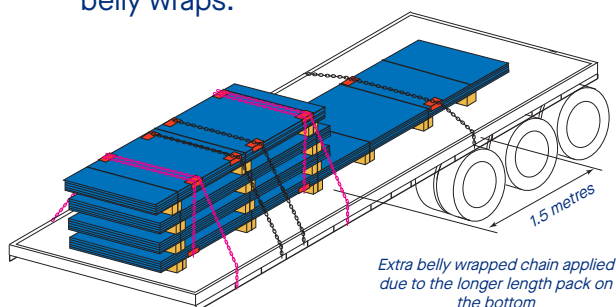

Fig.3.1: Total load 12 tonnes with uneven length packs:
- Place all required chains over the top of the highest pack and add an extra chain over the longest pack if the difference between the pack lengths is greater than 1.5 m. (Fig.3.1) or;